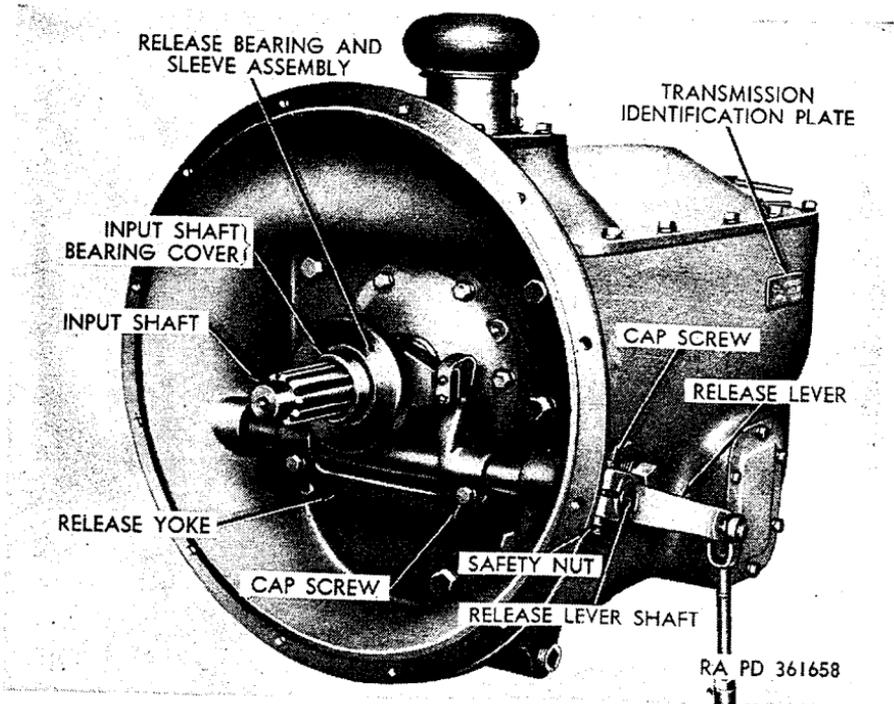

Figure 200. Left front view of transmission and clutch release mechanism.
- (1) Remove transmission (par. 205).
- (2) Loosen cap screw and safety nut securing release lever to left end of release lever shaft (fig. 200), and slide lever and locating key off shaft.
(3) Loosen two cap screws securing release yoke to the release lever shaft (fig. 200) and remove release lever shaft, keys, and yoke from clutch housing.
(4) Slide release bearing and sleeve assembly forward and remove from transmission input shaft (fig. 200).
e. Clutch Release Bearing and Sleeve Assembly Installation (fig. 200).
(1) Start release lever shaft through hole in left side of clutch housing, making sure that shaft oil seal is installed in hole and in good condition.
(2) Place a small amount of artillery and automotive grease (GAA) in bore of release bearing sleeve and slide release bearing and sleeve assembly onto input shaft bearing cover.
(3) Hold release yoke in position and slide release shaft through yoke and into shaft hole in right side of clutch housing.
(4) Install locating keys, and tighten two cap screws to lock yoke on release lever shaft.
(5) Install release lever and locating key on left end of release lever shaft, and tighten cap screw and selflocking nut.
(6) Install transmission (par. 205).
Caution: Be sure that transmission is properly supported and pulled straightaway from engine. Otherwise the clutch driven disk may be distorted sufficiently to prevent free removal of the transmission input shaft (fig. 200) from the driven disk hub (fig. 195).
- (1) Clean gasket surfaces on flywheel housing and clutch housing, and install new gasket on clutch-housing mounting flange.
- (2) With transmission supported by hydraulic jack (fig. 201), position transmission at rear of engine so that splines on front end of input shaft (fig. 200) are alined with splines in hub (fig. 195) of clutch driven disk assembly.
- (3) Carefully move transmission toward engine, with input shaft entering driven disk hub, until clutch housing contacts flywheel housing.